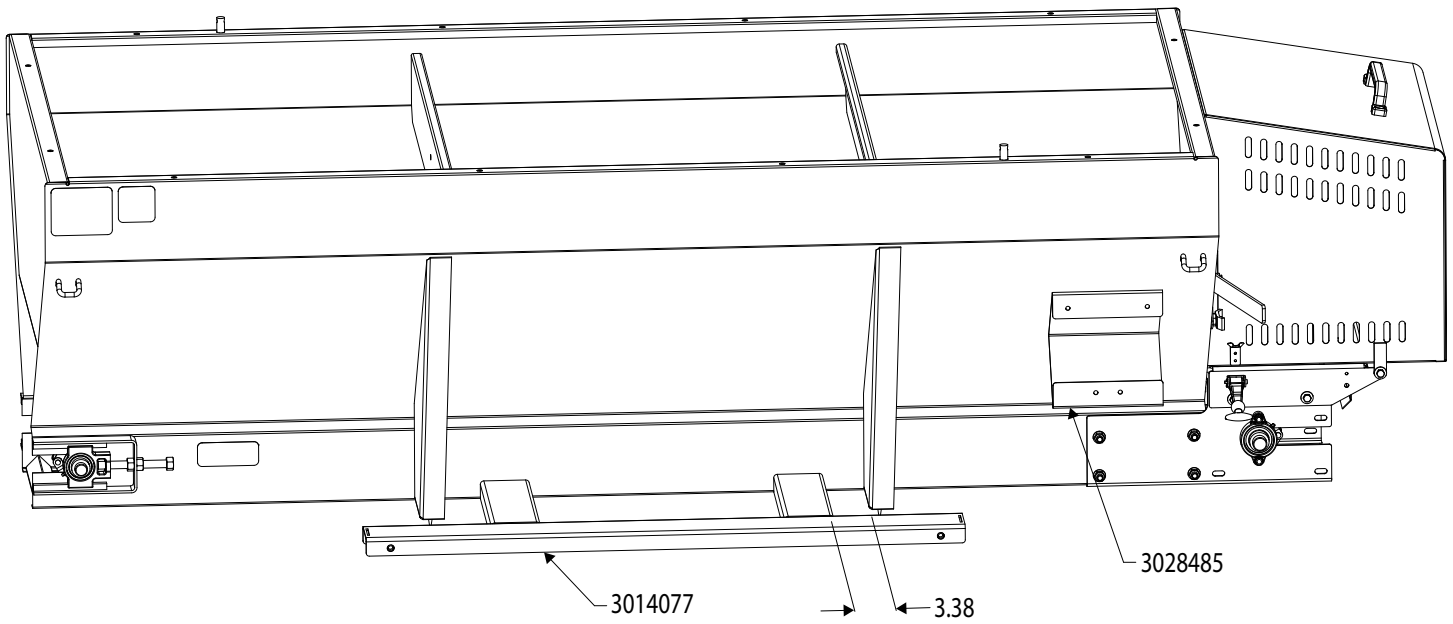

Fig. 1
- 1.** Position and weld Enclosure Bracket (#3028485) and Reservoir Supports (#3014077) to spreader as shown on Fig.1.